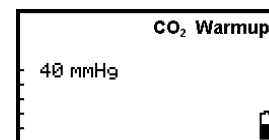

Figure 10-3: Measuring Mode
6. After initialization, the monitor automatically goes to Measuring Mode. The message CO2 Warmup appears on the Silent Advisory Message area, refer to Figure 10-3.